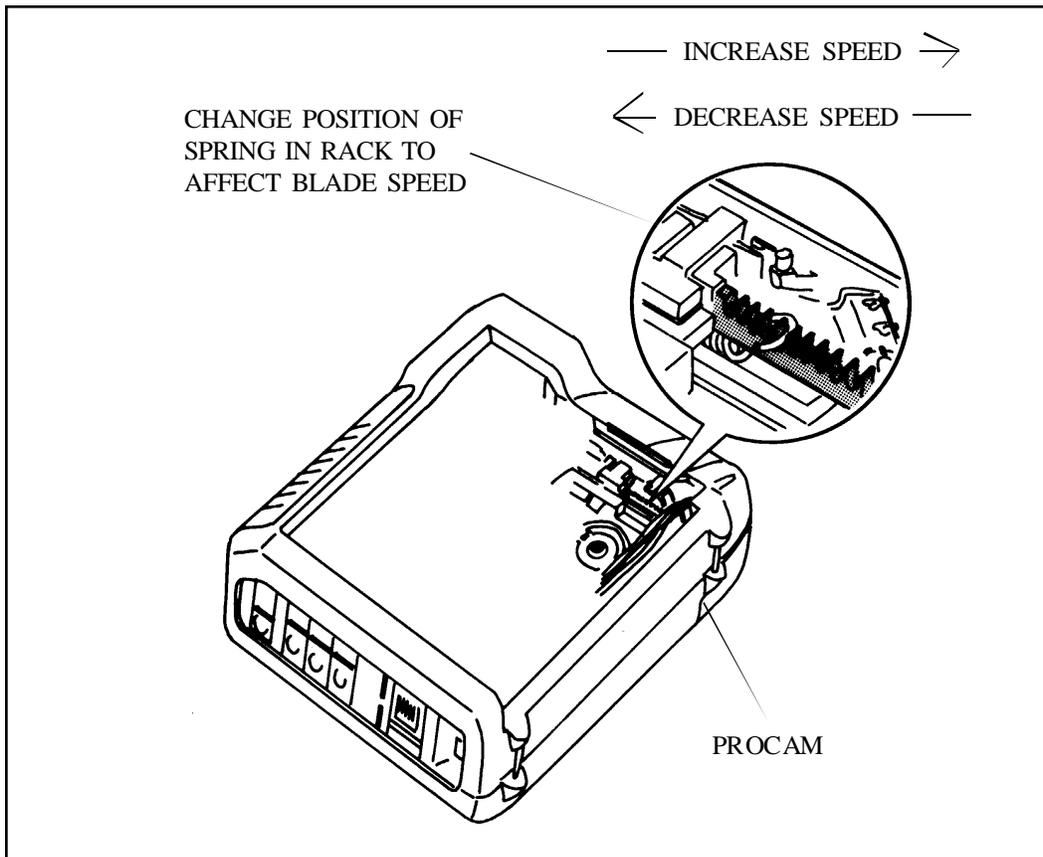

Figure 2-7. Hybrid Test Adjustment (Opening Blade Spring Tension Adjustment)
2. If the Hybrid (ZLS/Blade Speed) Test readings are too low, increase the tension on the Opening Blade Spring (Figure 2-7) by moving it one notch to the right (when facing the back of the ProCam).
2. Using tweezers, carefully lift the upper end of the Opening Blade spring out of its notch in the Shutter Base Block (Figure 2-7).